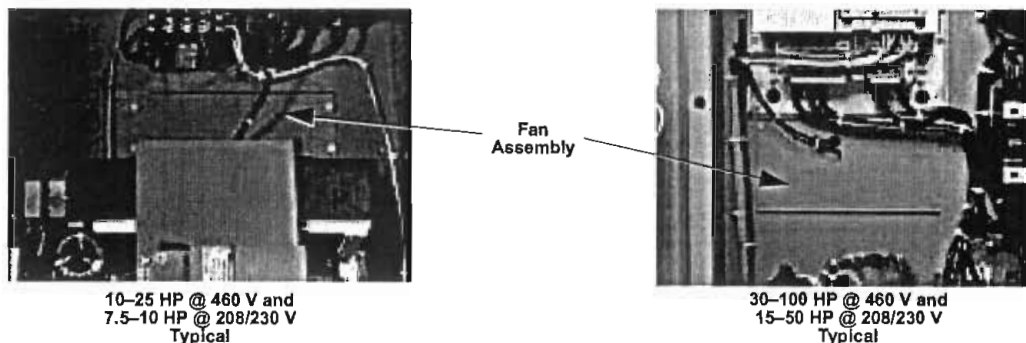
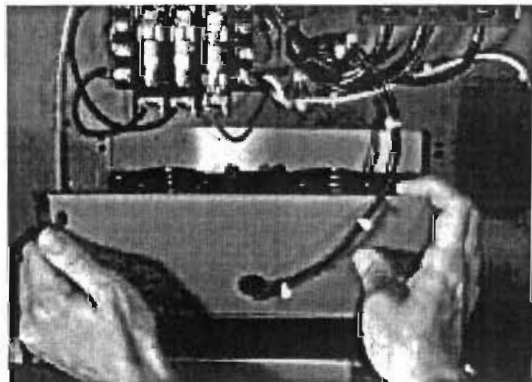

Figure 29: Heatsink Fan Assembly Location
Figure 31: Remove the Heatsink Fan Assembly
- Remove the four screws securing the heatsink fan assembly. Keep the four screws. See Figure 29.
- Remove the heatsink fan assembly from the enclosure. For the 10–25 hp 460 V controllers and 7.5–10 hp 208/230 V controllers, lift the assembly up toward the top of the enclosure then pull it out. For 30–100 hp 460 V controllers and 15–50 hp 208/230 V controllers, pull the assembly down toward the bottom of the enclosure then pull it out. See Figure 31.
1. Install the heatsink fan assembly. Secure the assembly with the four screws saved from step 5 above. Torque the screws to 15 lb-in (1.7 N•m). See Figure 29 and Figure 31.